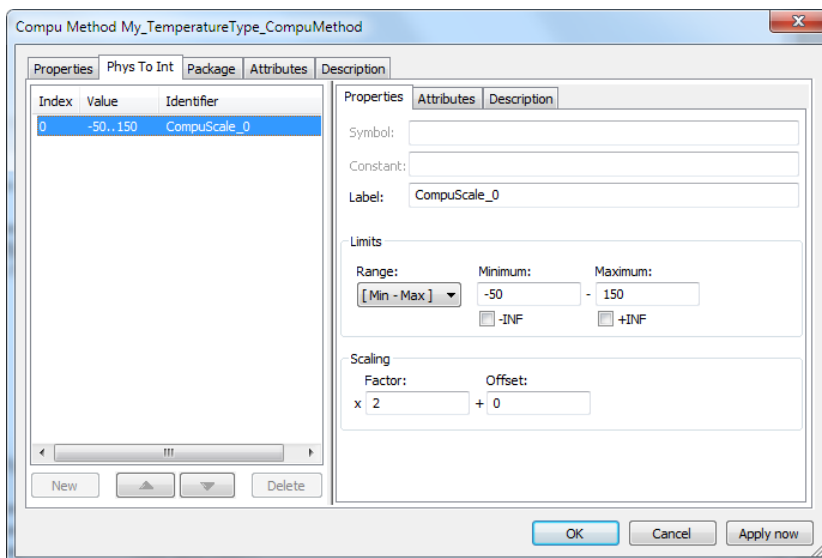

Figure 4-5 Physical to Internal linear scale
- The physical to internal linear scale is configured with factor 2 and offset 0 over the physical range [-50;+150] (see Figure 4-5)